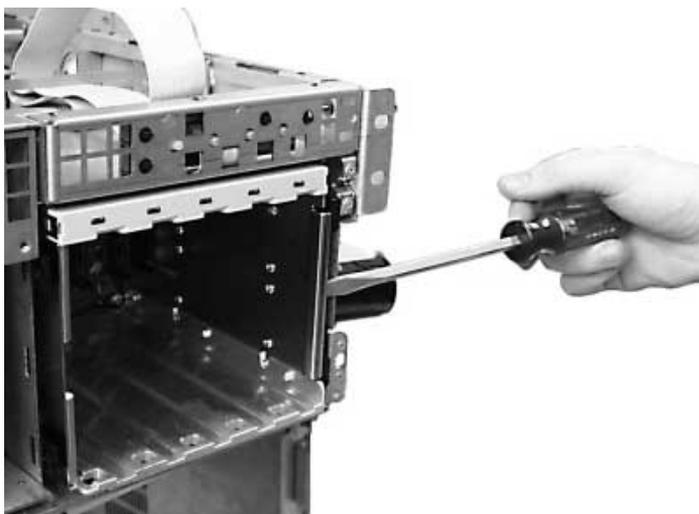

Figure 2-10 Removing the Hard Drive Bay from the Chassis
7. With a flat head screwdriver, pry the right side of the hard drive bay out of the chassis, as shown in Figure 2-10.